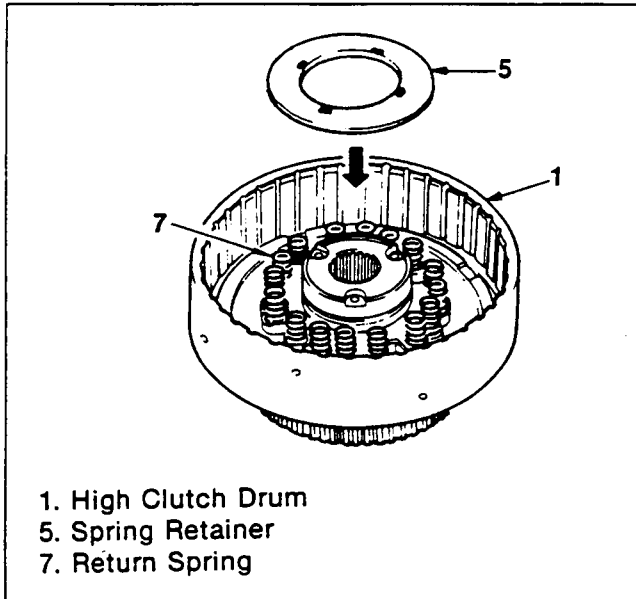

Figure 138. Return Spring Installation (1)
Return Spring (Figures 138 and 139)
1. Attach the return springs and the spring retainer in the designated position (figure 138).